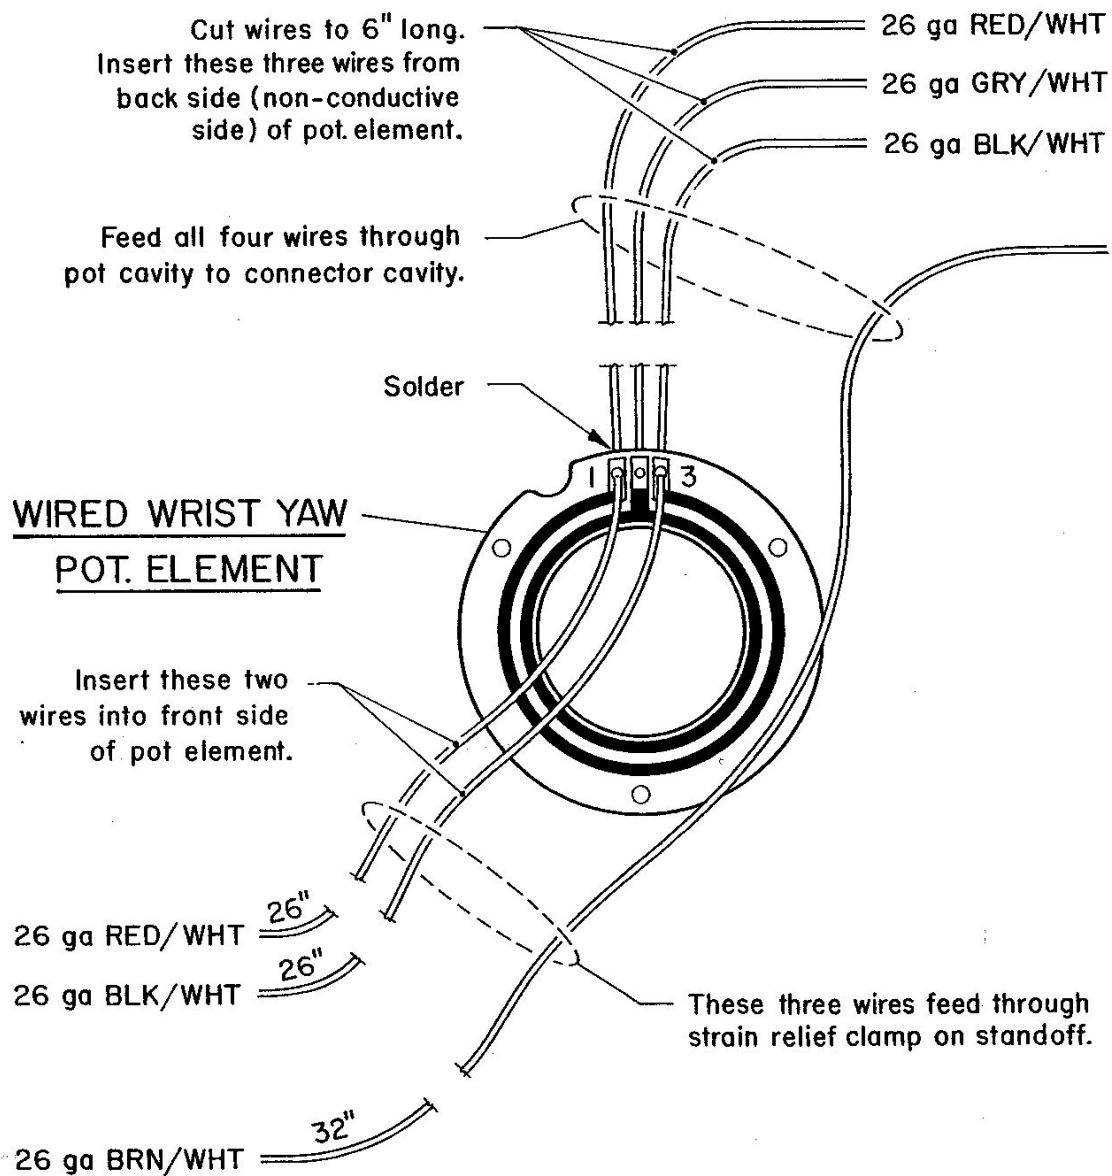

Figure 4-12 Wiring of wrist yaw actuator potentiometer element
4. Install Quad-ring (27) and seal (14) in both halves of actuator body.
5. Install O-ring (15) in actuator body (9).
6. Insert shaft/vane assembly into actuator case half (9) with a twisting motion. Use care to prevent cutting the vane seals on the sharp cavity edge.
7. Install stationary vane in actuator case half (9) using dowel pins (23). When slipping the vane into the actuator body use care to prevent cutting the vane seals on the sharp cavity edge and the sharp shoulder of the shaft.
8. With a twisting motion slide actuator case half (24) over end of shaft aligning with the dowel pin holes that capture the stationary vane. Make sure all seals are still in place. Use care to insure that the vane seals are not cut and that the vane seals do not bunch up when assembling the case halves.
9. Bolt the case halves together using fasteners (25),(26). Make certain that the face of the actuator is flat across the two case halves. Torque fasteners to 132 inch lbs.
12. Prepare the resistive potentiometer element (7) as shown in Figure 4-12.
13. Place the potentiometer element in the pot cavity of the yaw actuator feeding the 3 wires that extend from the back of the element and additionally the BRN/WHT Wrist Roll pot return wire through the hole to the connector cavity. Secure the element with screws (6). Install standoff (5) and the wire strain relief clamp (4) with screw (3). Feed RED/WHT, BLK/WHT wires only through clamp, and tighten screw.
14. Attach the potentiometer wiper ass'y (2) to shaft (21) using screws (1). The screws can be tightened with a hex key by rotating the shaft to align the screws with the access hole provided in the hub of the actuator body. After attaching the wiper assembly to the shaft, install O-ring sealing screw (8) to plug the access hole. Install using Loctite 242. Test for correct functioning of the potentiometer with a multi meter.